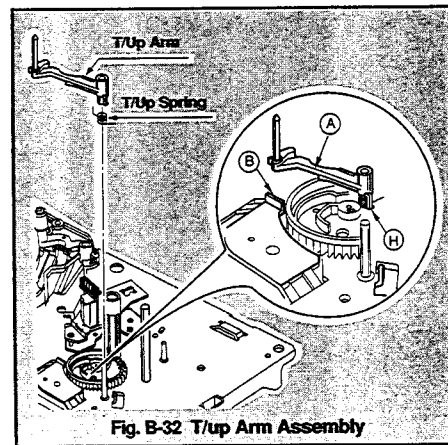

Fig. B-32 T/Up Arm Assembly
32. T/Up Arm Assembly (Fig. B-32)